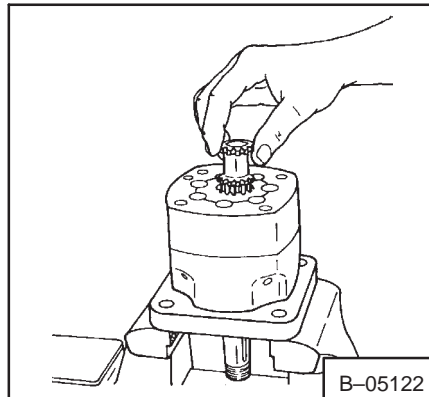

Fig. 3-45 Removing Valve Drive
14. Remove the valve drive (Fig. 3-45).